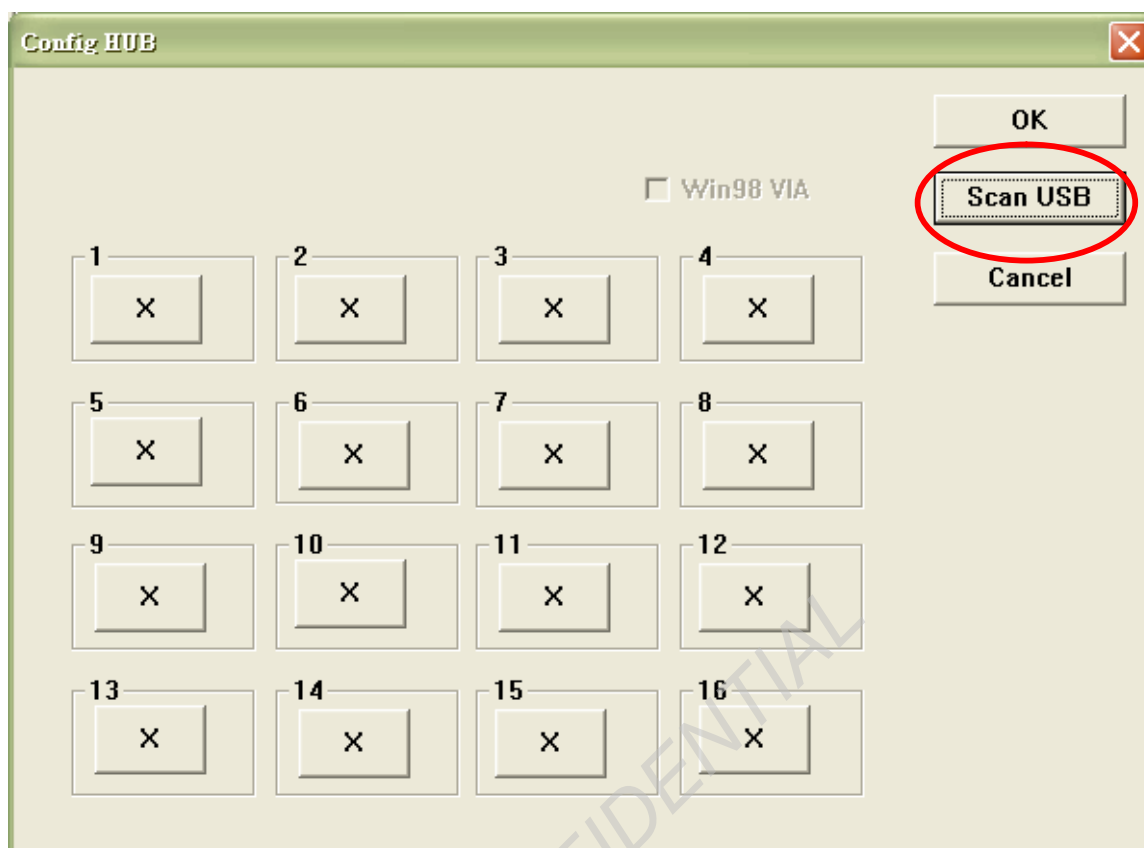

Fig. 6 The process of the first time to configuration in this condition.
- Step 1、In the Fig. 6, if the configuration is the first time and the device port labels existed 「O」 or you want to reset the port mapping, press the『Scan USB』button without plugging any UFD to reset the configuration.